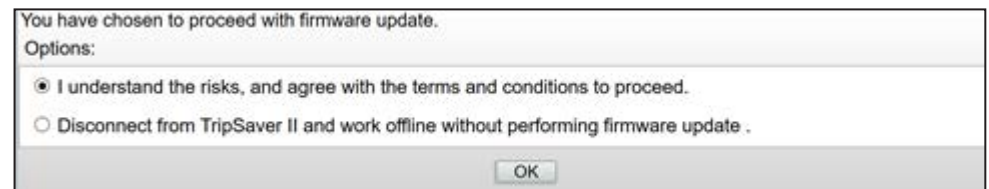

Figure 54. The firmware update Terms and Conditions dialog box.
STEP 6. A second dialog box will open. See Figure 54. Agree with the terms and conditions by selecting the appropriate option. Then, click on the **OK** button. If instead wanting to abort the firmware update, select the **Disconnect from the TripSaver II and work offline without performing firmware update** option and click on the **OK** button.